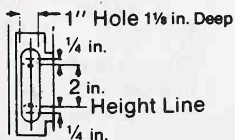

Fig. 18-38.
6. Mark vertical and height lines on the jamb exactly opposite the center point of the lower latch hole. Mark a second horizontal centerline 2 in. above the height line for the dead bolt hole. Bore a 1 in. diameter hole $1\frac{1}{8}$ in. deep $\frac{1}{4}$ in. below the height line. Bore a second hole to the same dimensions $\frac{1}{4}$ in. above the second horizontal line. Clear out area between holes for the strike box (Fig. 18-38).